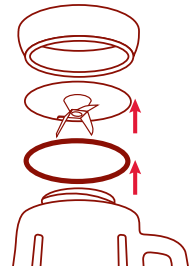

Figure 6
- Turn the Blending Jar upside down and unscrew the Jar Base. Carefully remove the Blending Blade, and Blending Blade Sealing Ring.. *Figure 6*